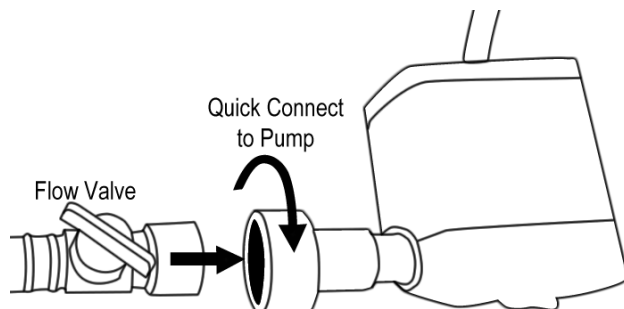
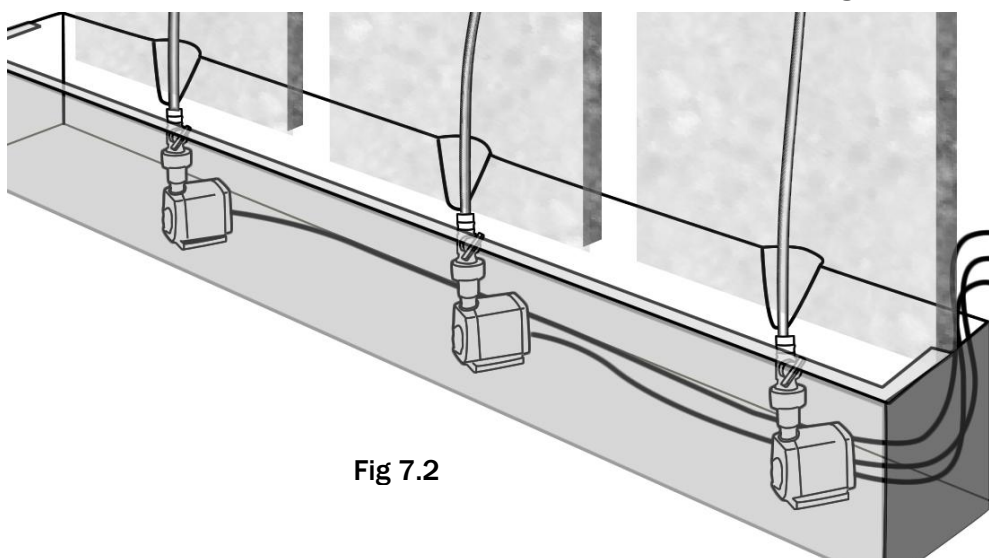

Fig 7.1
Fig 7.2
1. Place each pump assembly (H) inside the reservoir (L). **DO NOT plug the pumps (H) into any outlet. Operating the pumps dry will void any warranty and burn out the pump.** You will find a vibration reducing pad affixed to each pump. Make certain the pump is resting on this pad on the bottom of the reservoir.
2. Connect each pump (H) to the plumbing for each stone using the quick connect fitting (Fig 7.1). The flow valve **should** be open. Open is when the valve is in line with the plumbing. Closed is in perpendicular position. Make certain the quick connect fitting engages fully. Hang the **pumps** **cords** over the right or left side of the reservoir (Fig 7.2), whichever is closest to the electrical outlet you plan to use.